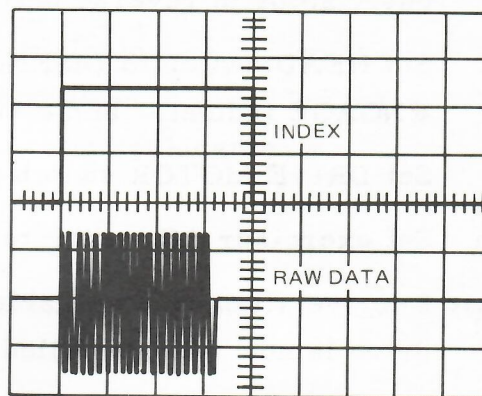

Figure 2-18. Synchronized Data
- f. Set oscilloscope as follows, to monitor leading edge of INDEX pulse and RAW DATA, as shown in Figure 2-18.